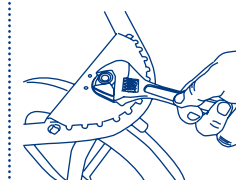

Fig. 6
- If you experience front wheel wobble that is beyond what is normal for use while walking or jogging you may have to adjust the front wheel housing nut. This nut is located under the footrest located at the front of the jogger. You can use a standard crescent wrench to tighten the nut. **DO NOT OVER TIGHTEN** this can cause damage to the wheel housing. (Fig. 6)